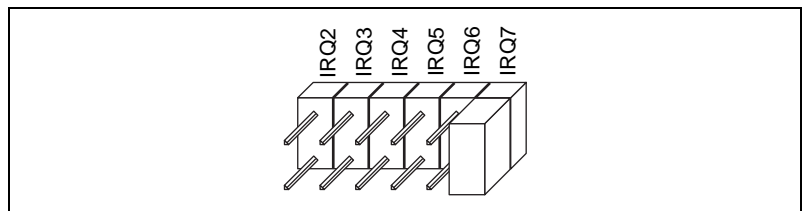

Figure 2-8. GPIB-PCII/IIA Interrupt Jumper Setting for IRQ7 (Default Setting)
2. Change the jumper settings to configure the GPIB-PCII/IIA to match the interrupt assigned by Windows. Figure 2-8 shows the setting for IRQ7.